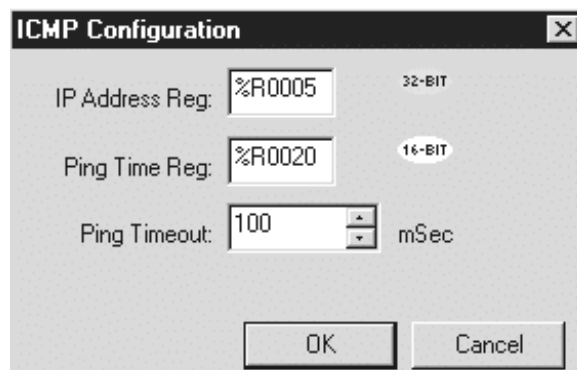

Figure 3.5 – ICMP Configuration Screen
9. Use the mouse to select either ICMP (Ping) or EGD (Ethernet Global Data) by clicking the desired box. When appropriate, both items can be selected. (Figure 3.5.)
a. If the ICMP (Ping) box is selected, press the Config button next to it. The following screen appears. The Ping Timeout indicates how often a ping signal is sent out in milliseconds. The range available for selection is 100 – 100,000 milliseconds. (Figure 3.5.)